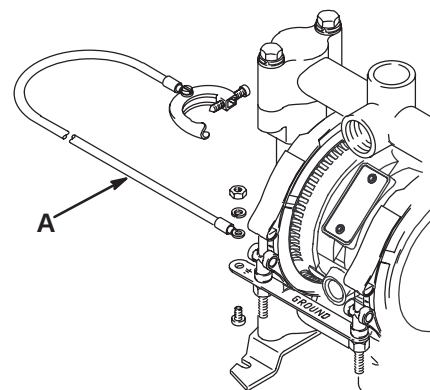

Fig 1
1. *Pump:* Connect a ground wire (A) to the pump as shown in Fig. 1. Connect to the other end to a true earth ground. Order Grounding Kit (Part No. 222084)